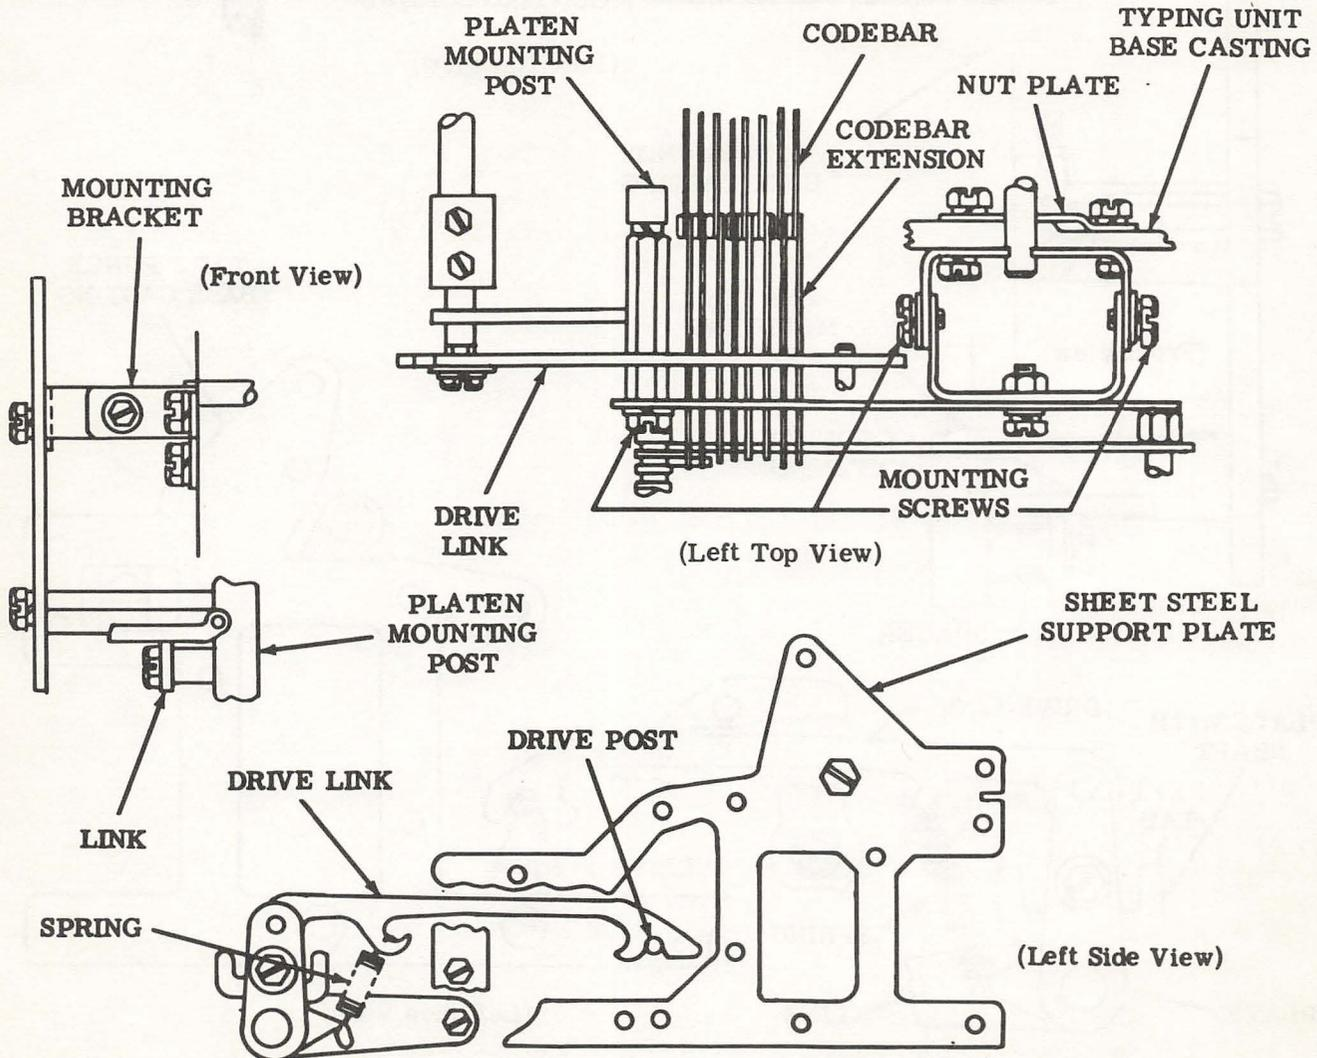

Figure 5 - Tape Punch (Late Design)
2.08 Late Design (Sheet Steel Frame): To remove the tape punch from the typing unit base casting (Figure 5), proceed as follows.